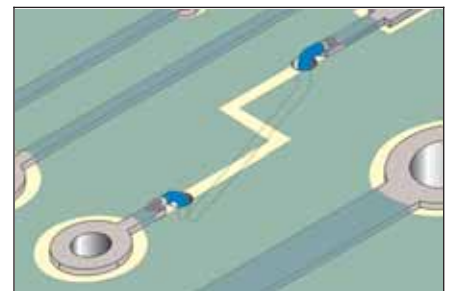

Figure 4 Lap solder wire to conductor.
14. Lap solder the wire to the conductors on the printed circuit board surface. Make sure the wire is properly aligned. (See Figure 4.)